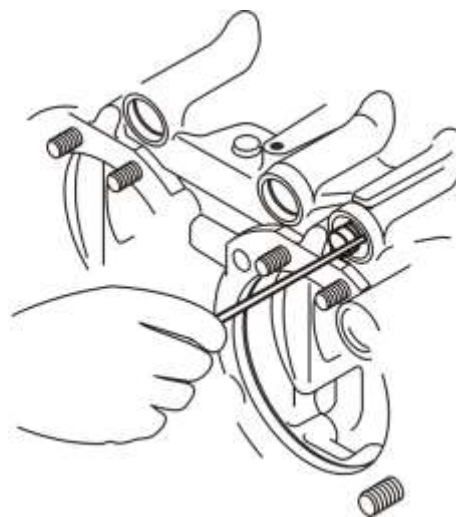

Figure 11
- (3) Push the hollow end of the Tappet Assembly Tool over the hydraulic tappet plunger and withdraw the plunger.
- (4) Bend a right angle in one end of a piece of wire and insert this end into the space between the plunger assembly and the tappet body. Turn the wire 90° to engage a coil of the spring and draw out the hydraulic tappet plunger assembly. Refer to Figure 11.